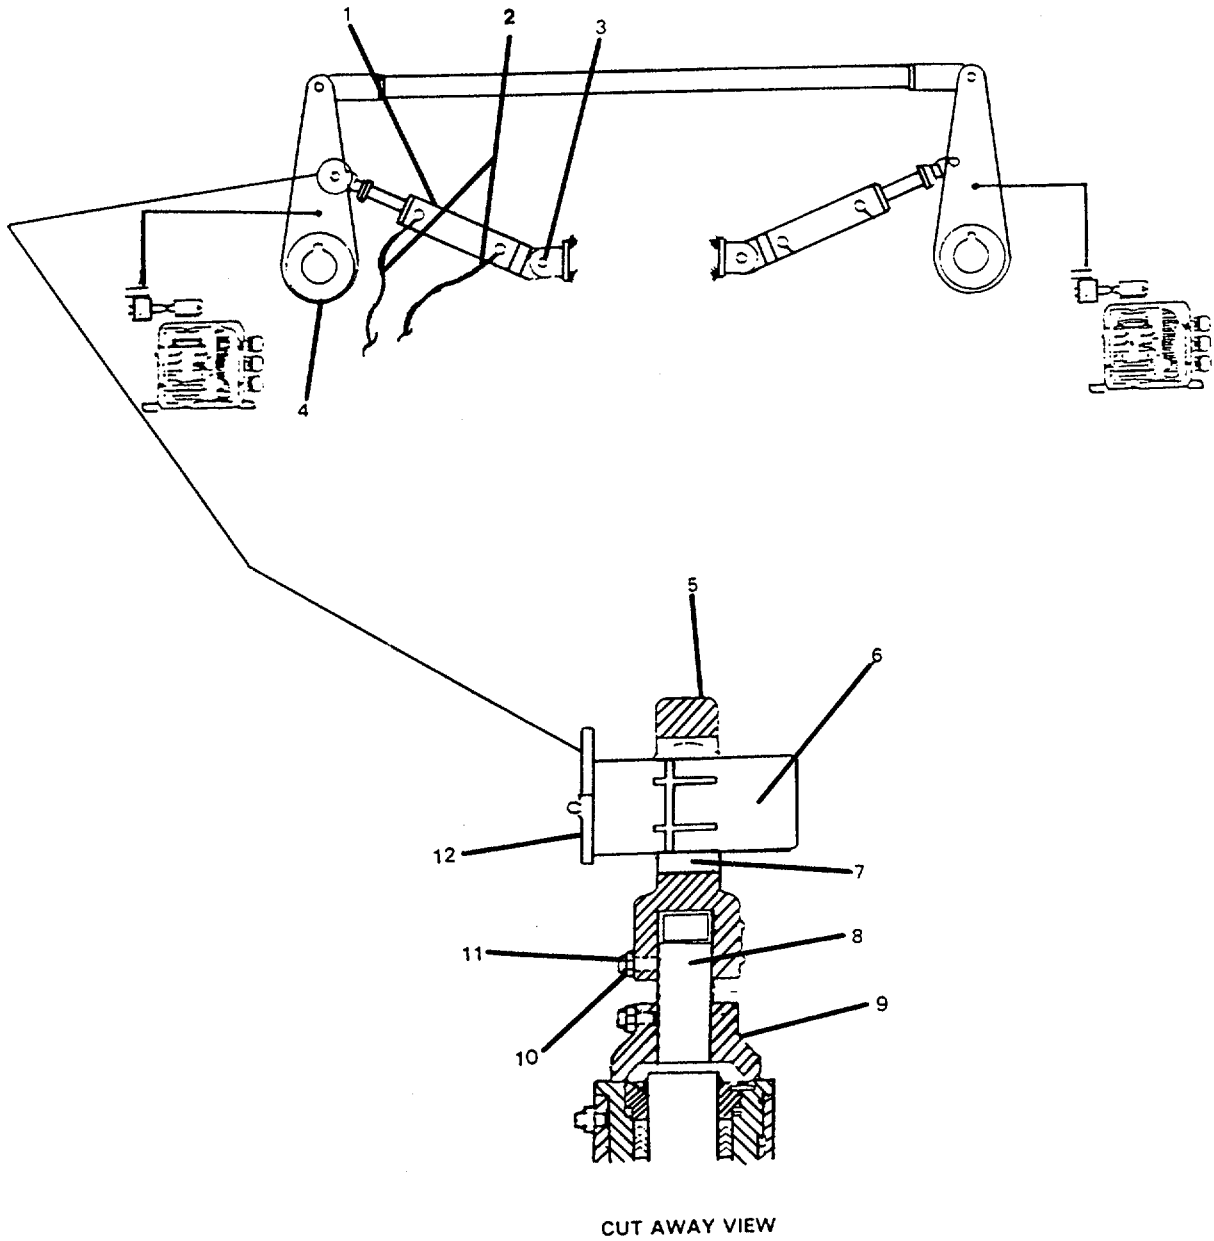

FIGURE 3-2. Hydraulic Cylinder Assembly.
**3-9. Replace/Repair Hydraulic Cylinder Assembly. (FIGURE 3-2)**